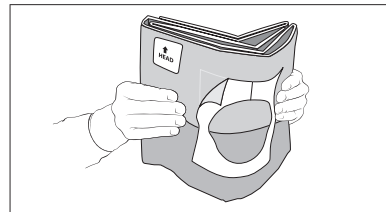

Figure 11
- Peel off fenestration backing (refer to Figure 11).